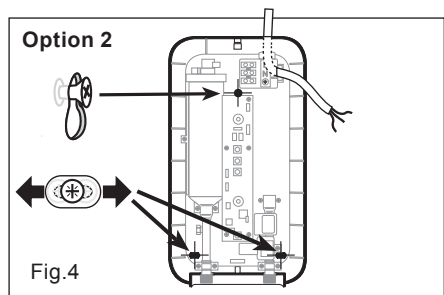

Fig.4
- Drill the holes: 2 Options: (Fig 3 Or Fig. 4) and insert the wall plugs.
- Fit the heater to the wall. (Fig 3 Or Fig 4)